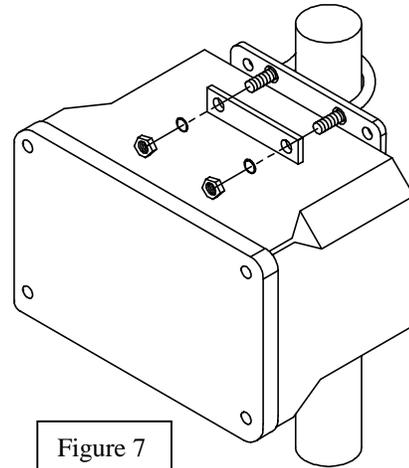

Figure 7
2. Fasten the top and bottom of the 6502, with installed brackets, to the rail using the u-bolts, plates, lock-washers, and nuts as shown in Figure 7.